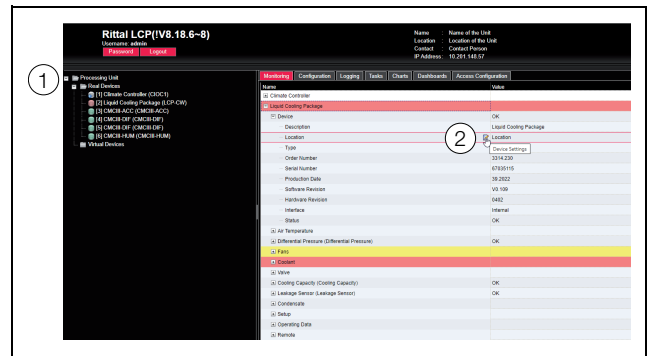

Fig. 134: Selecting an individual parameter
- One after the other, open the "Liquid Cooling Package" and "Device" entries by clicking on the "plus" symbol in front of the entry (fig. 134, item 1).
- Position the mouse pointer at the end of the first column in the "Location" line (fig. 134, item 2).